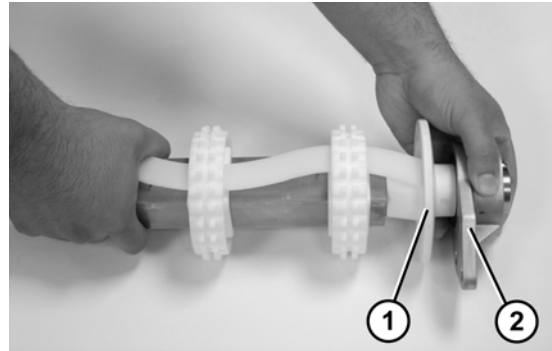

Figure 76
4. Attach the flanged pucks (Figure 76, item 1) and the 3 hole flange with bearing (Figure 76, item 2) to the drive spindle.